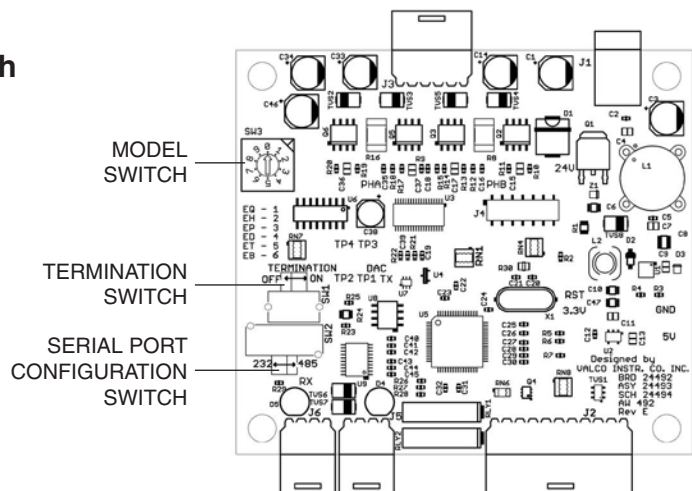

Figure 4: Switch locations
3. Locate the 10-position rotary switch marked SW3 (**Figure 4**, page 6) and set it according to the legend printed underneath the switch for the motor/gearbox assembly to which it will be coupled.